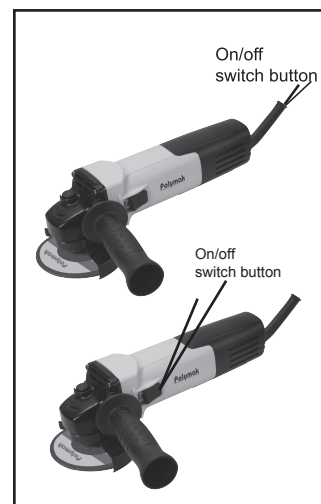

Fig 4
- SWITCH** (see fig 4)
The On/Off trigger switch is spring in the OFF position. The angle grinder is started by pushing forward the on/off switch. See fig 4. To stop the angle grinder, release the on/off switch and it will return to the OFF position.